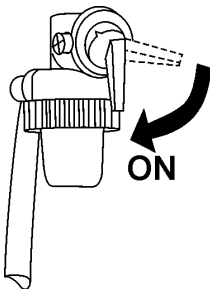

Figure 14. Engine Fuel Valve Lever (ON)
1. Place the engine fuel valve lever (Figure 14) in the **ON** position.